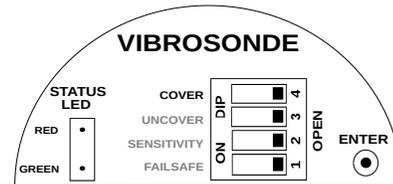

Figure 12: Saving Cover Delay
- Delay is entered, but not saved. To save and test the Cover Delay, set the COVER switch back to OPEN position as shown in Figure 12.